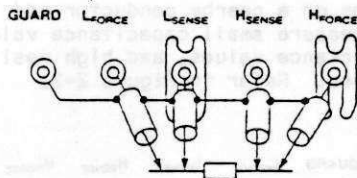

Figure 2-5. 5 Terminal Measuring Method
d. 5 Terminal measuring method. This method eliminates the stray capacitance produced between test lead wires or with nearby conductors. This method also eliminates the resistance or residual inductance of test lead wires and can be used for all ranges. Refer to Figure 2-5.